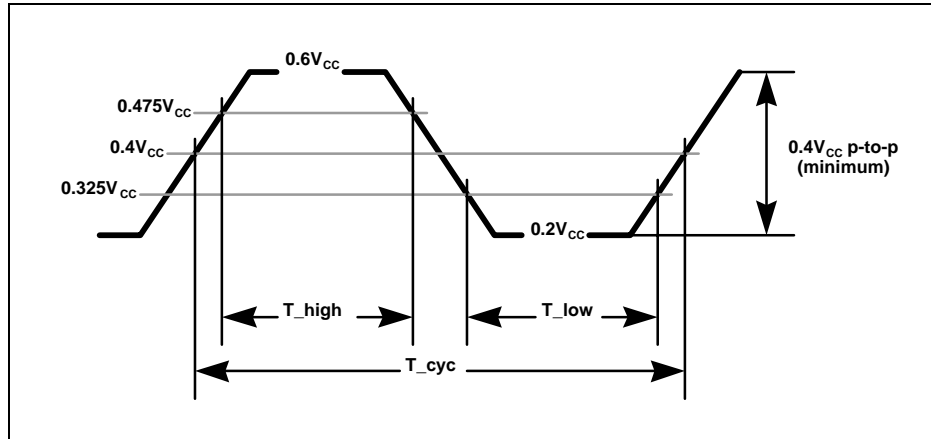

Figure 26. PCI Clock Waveform
The 82559ER uses the PCI Clock signal directly. Figure 26 shows the clock waveform and required measurement points for the PCI Clock signal. Table 22 summarizes the PCI Clock specifications.
2. Rise and fall times are specified in terms of the edge rate measured in V/ns. This slew rate is met across the minimum peak-to-peak portion of the clock waveform as shown in Figure 26.